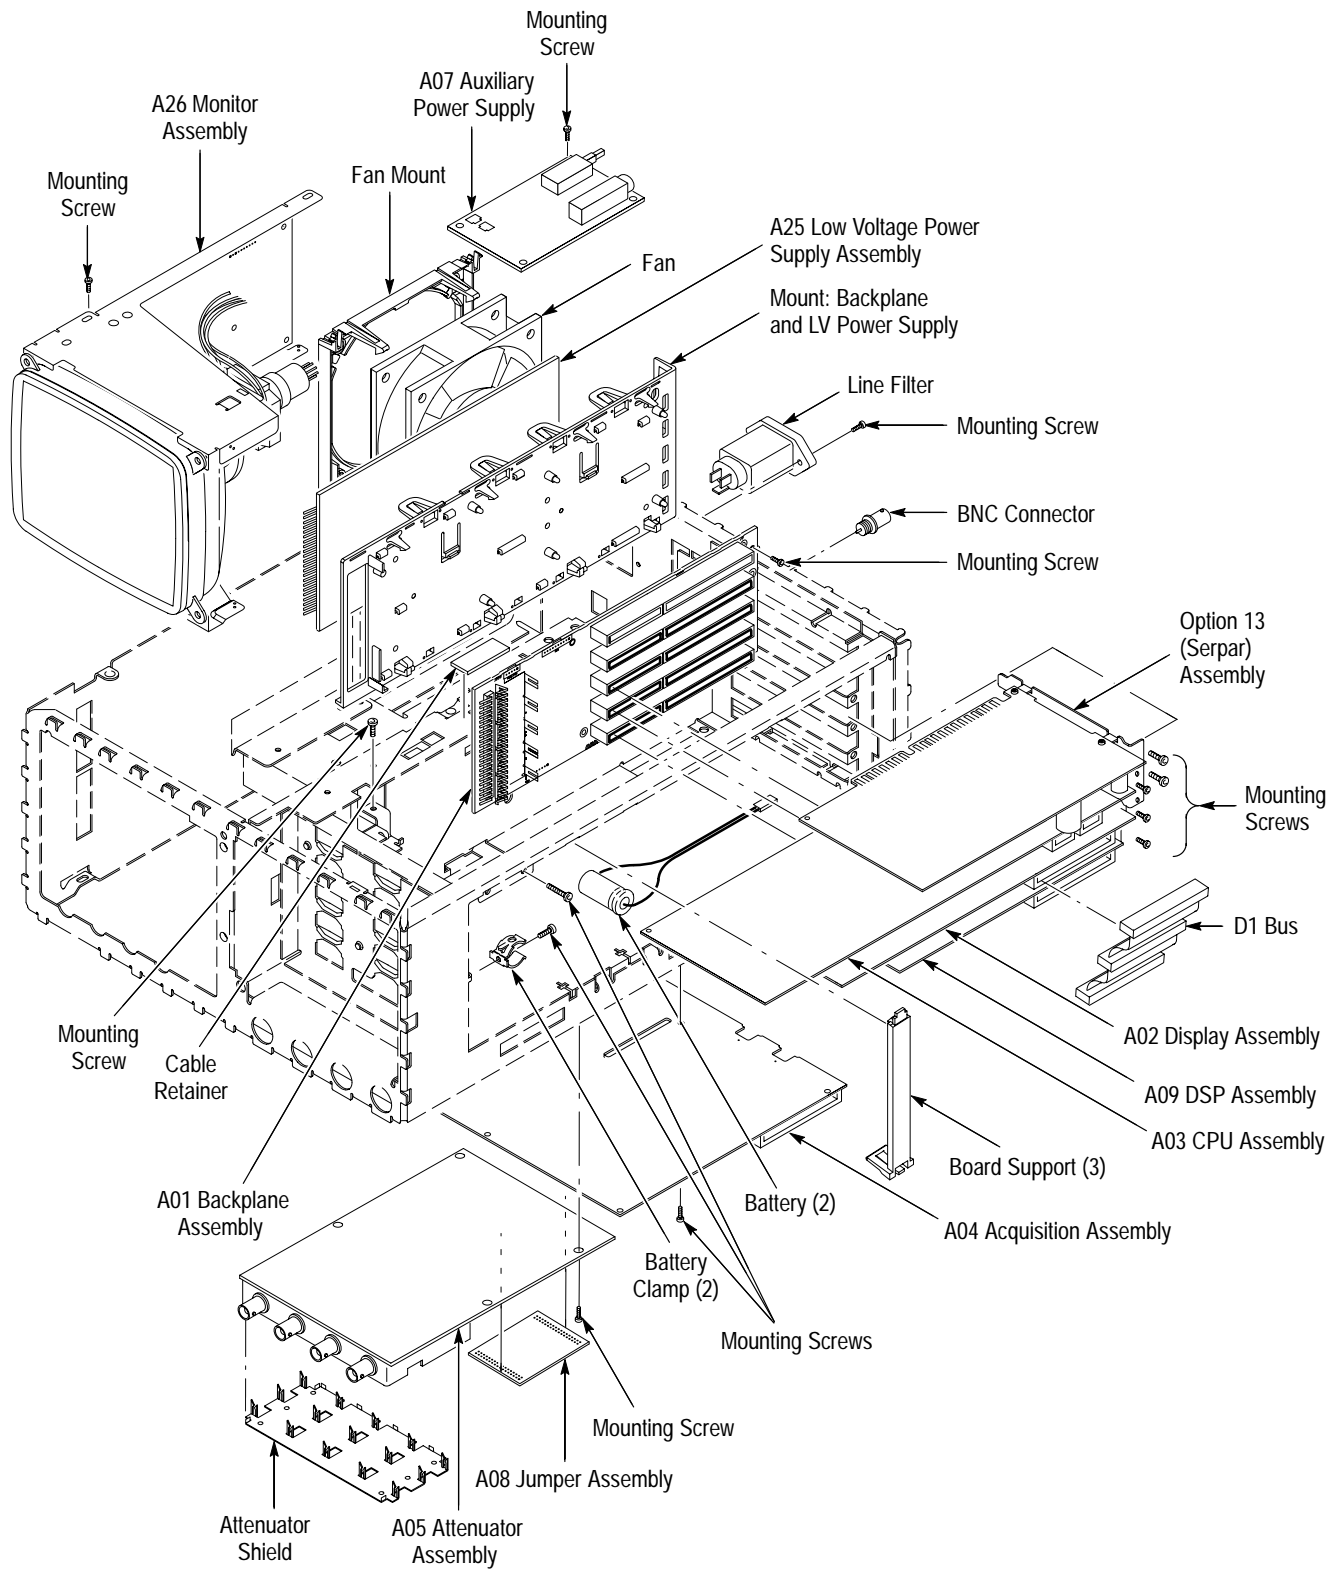

Figure 6-3: Internal Modules
- b. If you have found the module to be removed in either Figure 6-3 or Figure 6-4, cabinet removal is required:
- c. If you have located the module to be replaced in Figure 6-3, do the following subparts: